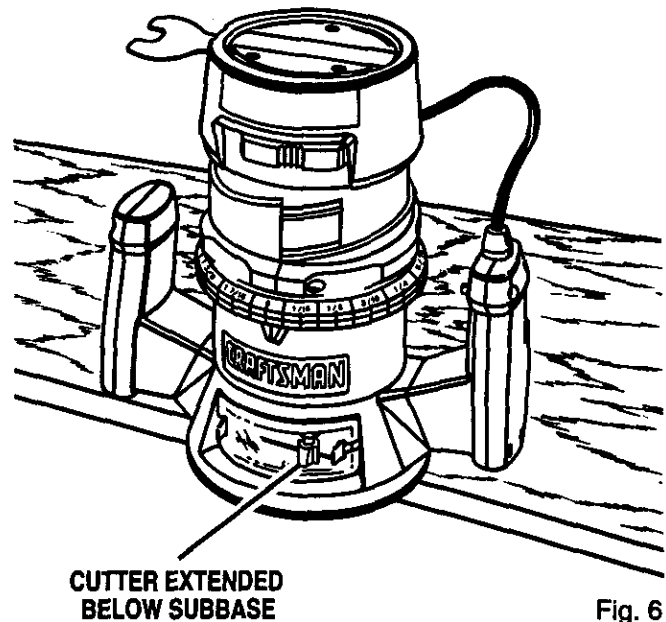

Fig. 6
- Position your router so that the cutter can extend below the subbase for desired depth setting. See Figure 6.